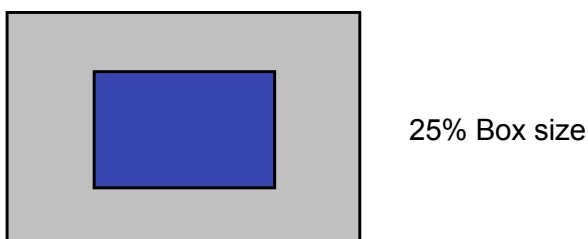
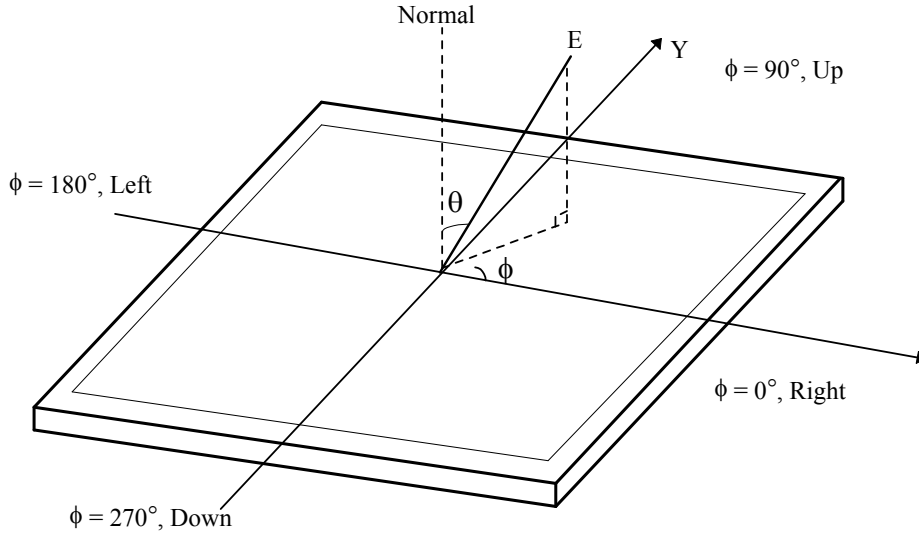

FIG. 3 Color Shift Test Pattern
FIG. 4 Viewing angle
For more information see FIG 3 and FIG 4. **(By EZ Contrast)**
6. Viewing angle is the angle at which the contrast ratio is greater than 10. The angles are determined for the horizontal or x axis and the vertical or y axis with respect to the z axis which is normal to the LCD surface. For more information see FIG 4. **(By PR880)**